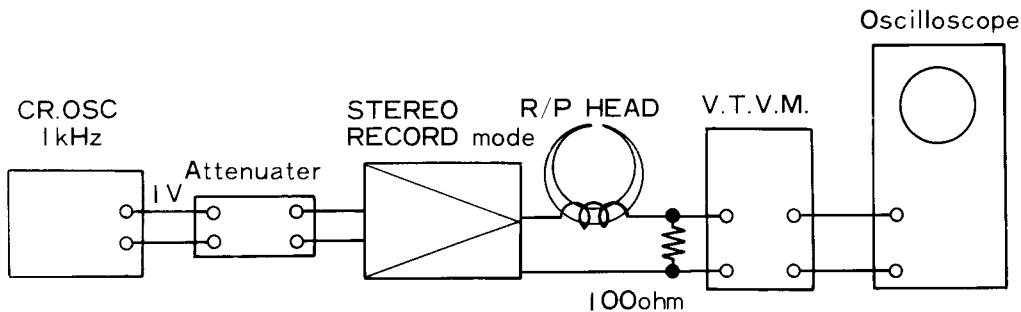

Fig. 16
2. RECORDING CURRENT ADJUSTMENT (Refer to Fig. 16)